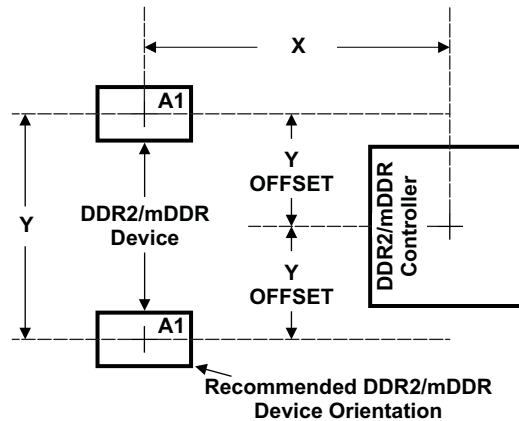

Figure 6-18. Device and DDR2/mDDR Device Placement
Figure 6-17 shows the required placement for the device as well as the DDR2/mDDR devices. The dimensions for Figure 6-18 are defined in Table 6-28. The placement does not restrict the side of the PCB that the devices are mounted on. The ultimate purpose of the placement is to limit the maximum trace lengths and allow for proper routing space. For single-memory DDR2/mDDR systems, the second DDR2/mDDR device is omitted from the placement.
(1) See Figure 6-18 for dimension definitions.
(2) Measurements from center of device to center of DDR2/mDDR device.